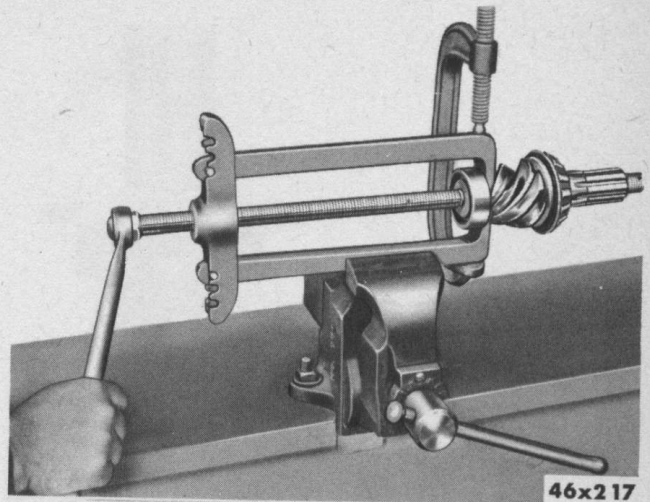

Fig. 51—Removing Rear Drive Pinion Bearing Pilot—Tool C-549
- (1) Tap shaft out of cage with soft mallet or press shaft from cage.
- (2) Remove outer bearing from cage.
- (3) Remove spacer or spacer combination from pinion shaft.
- (4) If necessary, remove the drive pinion inner bearing, as shown in Figure 50. The rear bearing pilot may be removed, as shown in Figure 51.
- (5) Remove oil seal assembly from bearing cover.